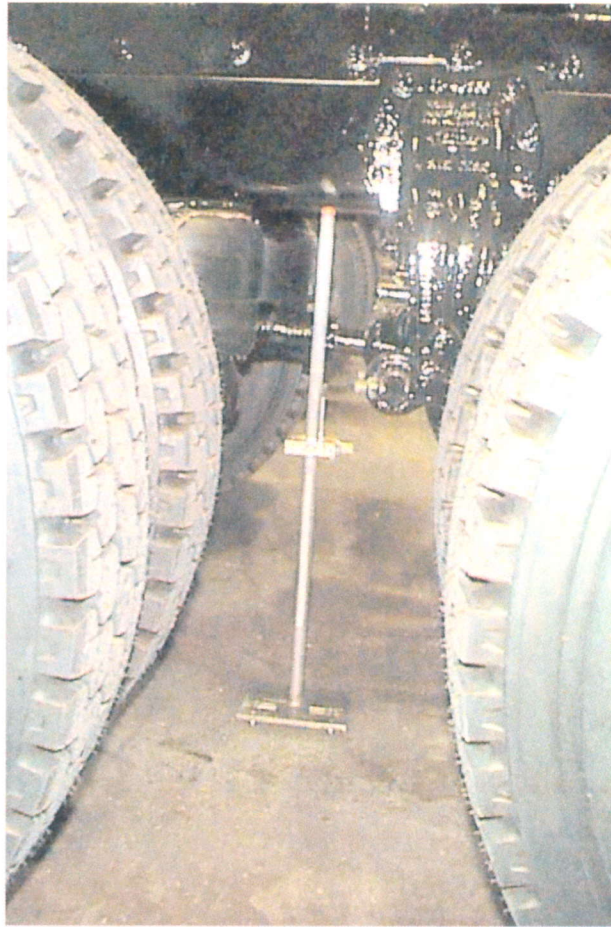

Figure 3 Illustration of Measuring The Ride Height on a Tandem Suspension
8. Move the ride height gauge under the frame rail, either forward of a single axle (but not forward of the suspension bracket) or between tandem axles (see Figure 3).